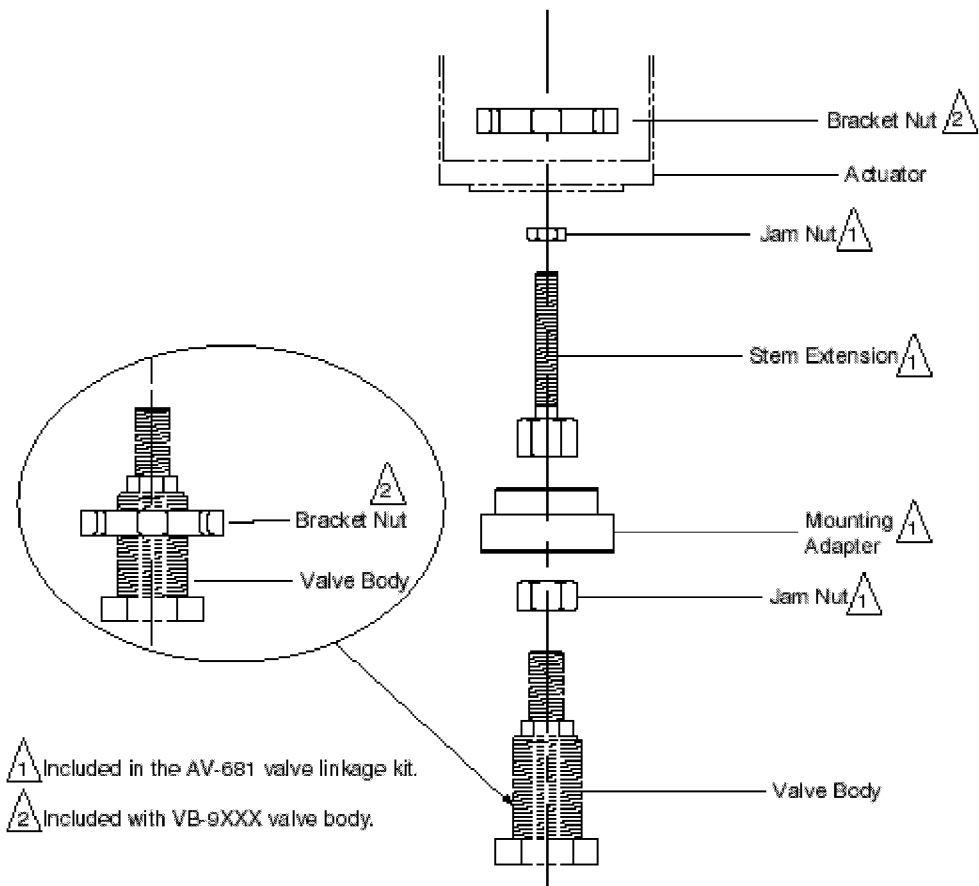

Figure-8 Typical VB-9XXX Valve Assembly.
1. Locate the AV-681 valve linkage kit, separate the components, and set the four (4) pieces aside to await further instructions.
4. Push the valve stem to its full stem down position, place the mounting adapter from the AV-681 components over the valve bonnet. Refer to Figure-8.